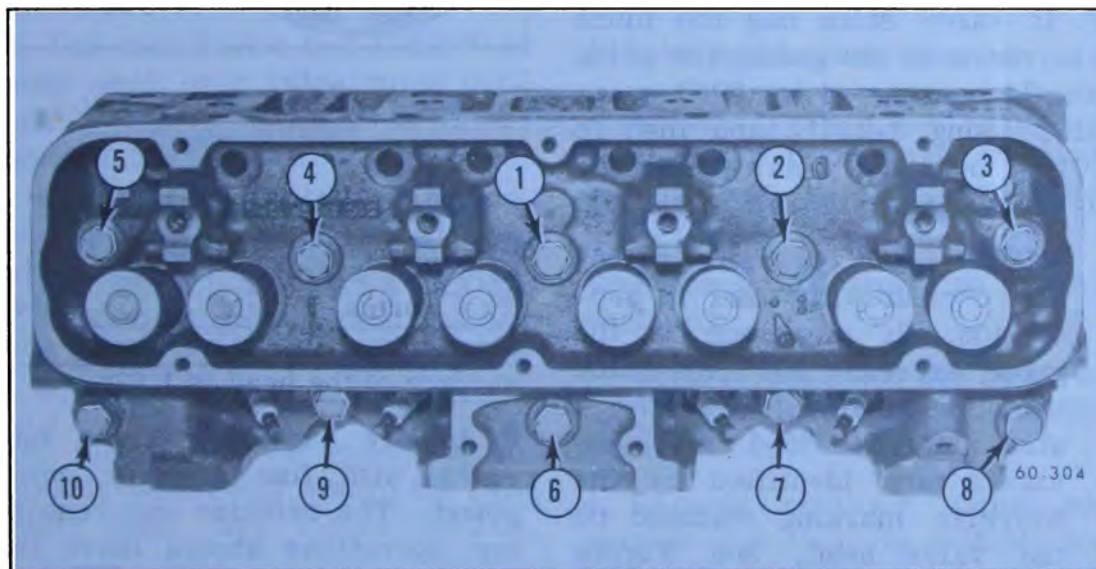

Figure 60-210—Cylinder Head Bolt Tightening Sequence
5. Install head bolts. Tighten the bolts a little at a time about three times around in the sequence shown in Figure 60-210. Give bolts a final torque in the same sequence. Torque to 75 lb. ft.